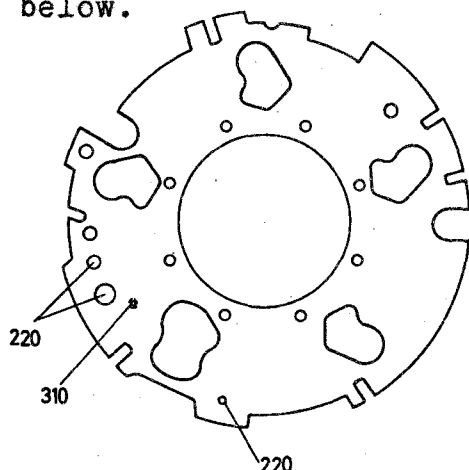
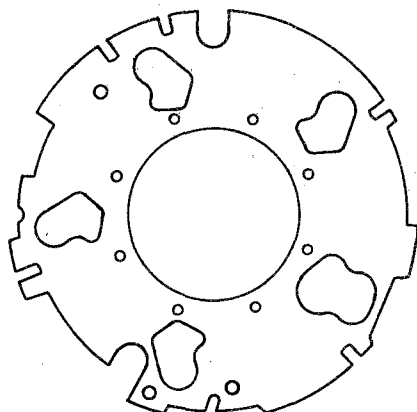

Fig. 30
Fig. 31
3. Size 0 shutters fitted with reinforced shutter blades 0475-U130 have the diaphragm cover plate 0475-U10.1 shown in Fig. 30 below.
IMPORTANT: Figs. 31 and 32 respectively show two different types of diaphragm cover plates used earlier, i.e. the plates 0475-10 and 0475-10.1. The cover plate 0475-U10.1 differs from those of Figs. 31 and 32 in that it has the two holes 220 and the rivet 310 shown in Fig. 30. The diaphragm cover plates 0475-10 and 0475-10.1 are interchangeable with the cover plate 0475-U10.1.